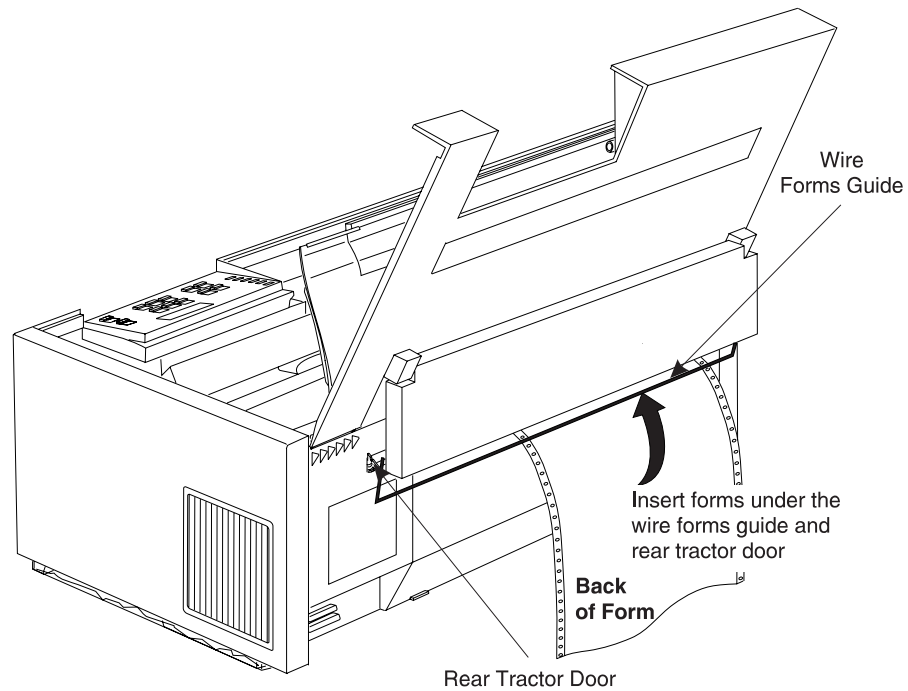

Figure 34. Installing Forms at the Rear of the Printer
3. Open the rear tractor door located at the back of the printer (see Figure 34 on page 56 for location).